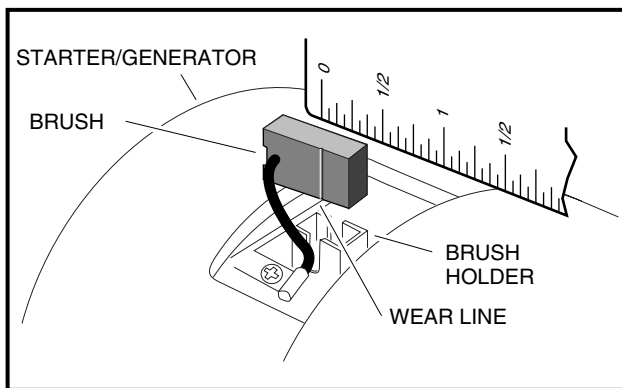

Figure 12-5 Inspect Brushes
2. Check the wear line on the side of the brush. If the end of the brush is within 1/16-inch (1.6 mm) of the wear line, replace all four brushes (Figure 12-5, Page 12-3).